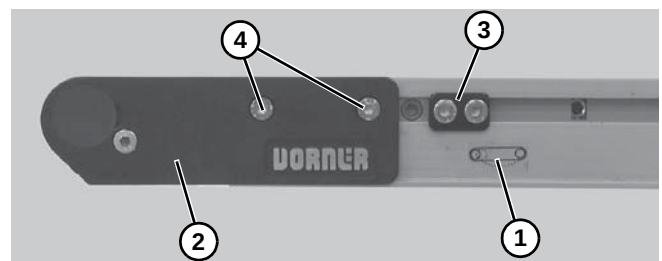

Figure 17
6. On tension end of the conveyor, identified with a  label (Figure 17, item 1), push in head plate assembly (Figure 17, item 2): On both sides of conveyor, loosen and move cam tracking assemblies (Figure 17, item 3) (if equipped) away from head plates, then loosen fastening screws (Figure 17, item 4) and push head plate assembly inward.